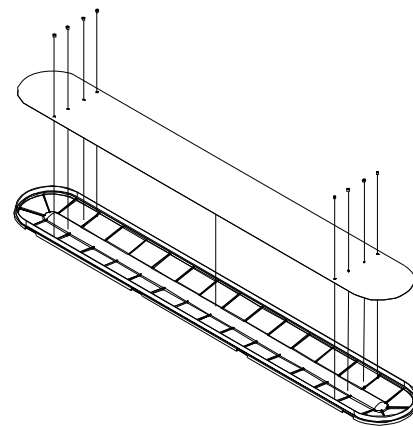

Fig 15
2. Remove diffuser and attach the film to tabs on inside of lens (near both ends of lens cover). Secure film with (8) washers provided. Ensure that the smooth side of the film is away from the lens and the notched corner is towards the outside of the lens (Fig 15).